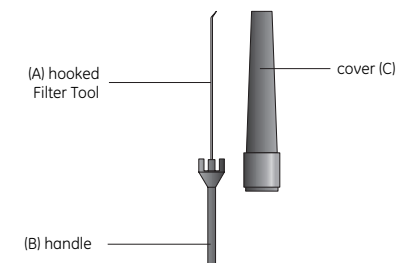

Fig 4. Filter tool.
3. Using a hooked Filter Tool (accessory Fig 4, A), carefully remove the filter from the surface of the resin bed.
- Lift the adapter lock and remove the adapter unit. Bring up the loose filter using the hooked Filter Tool (Fig 4, A).
- Insert a new bottom filter into the filter holder and press it into place using the handle of the Filter Tool (Fig 4, B) or the smaller end of the Filter Tool cover (Fig 4, C). The handle of the Filter Tool is used for filter in 5-mm columns, the smaller end of the Filter Tool cover for filters in 10-mm columns.